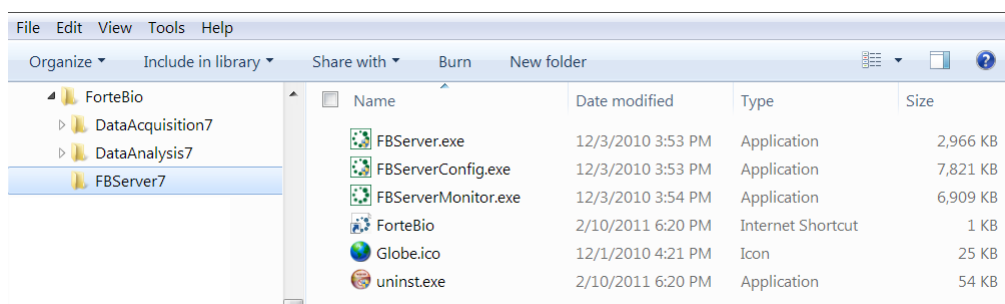

Figure B-55: ForteBio GxP Server Module Installed on a Network Location
- **If the Pall ForteBio GxP Server module is installed on a network location**—Double-click the **FBServer.exe** file in the FBServer folder from the installed location (Figure B-55).